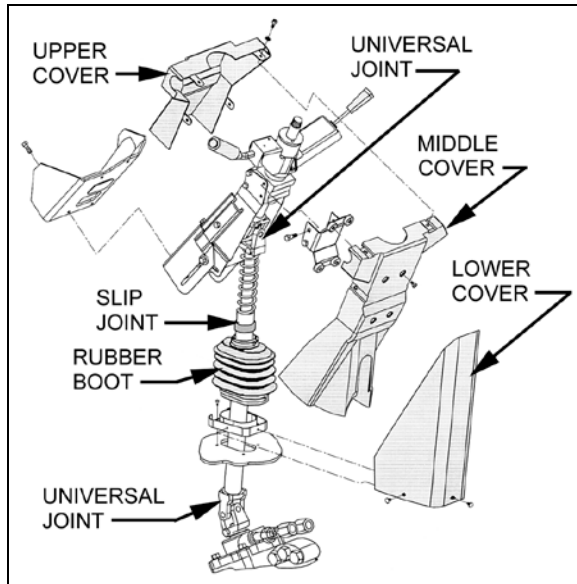

FIGURE 8: STEERING COLUMN COVERS
1. From the front driver's compartment area, remove the three plastic fasteners on steering column lower cover. Remove the lower cover (Fig. 8).
2. Remove the 2 clockspring mounting screws and then remove the clockspring. You will have to disconnect the clockspring harness connector located lower along the steering wheel column. If necessary, remove the steering column covers (Fig. 8).